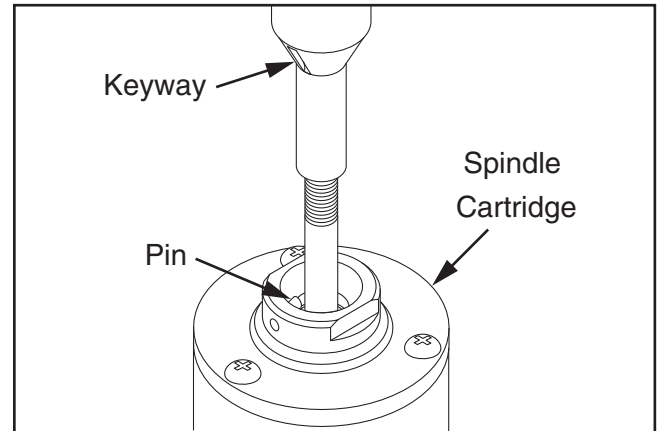

Figure 15. Inserting the spindle into place.
3. Place the spindle/drawbar into the spindle cartridge at the top of the table. Line up the keyway on the spindle with the locating pin at the top of the spindle cartridge (see **Figure 15**). You will feel the spindle seat itself.